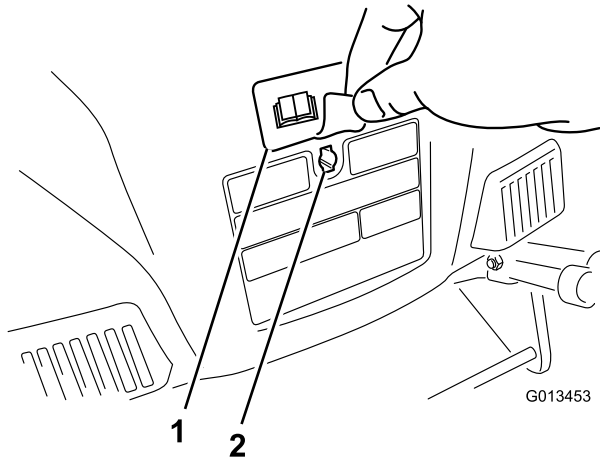

**Figure 4**
2. Insert the end of the chute control rod through the keyed hole in the bracket that is attached to the top of the lower handle (Figure 4).